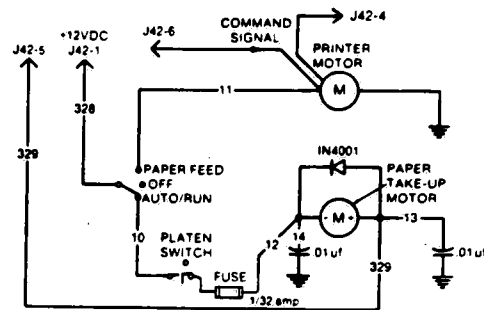

Figure 7-22. SWITCH & MOTOR SCHEMATIC
4. See Figure 7-22 or 7-22A to rewire the new switch.
7. See Figure 7-22 or 7-22A to rewire the new switch.
8. See Figure 7-22 to rewire the new switch.